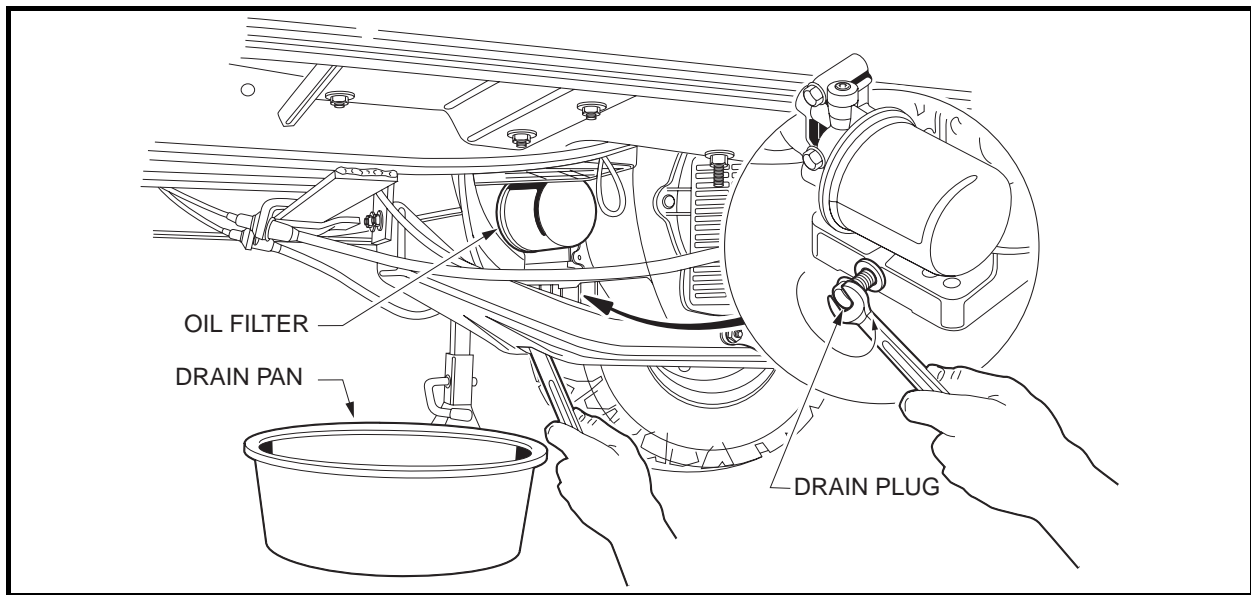

Figure 21 Engine Oil Drain Plug and Pan
- Position a pan designed for oil changes under the front drain plug (**Figure 21**).